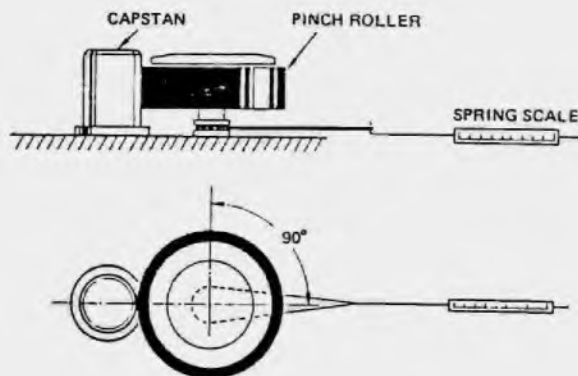

Fig. 5.1
- a) Attach a suitable spring scale to the pinch roller shaft with a short loop of twine as shown in Fig. 5.1.